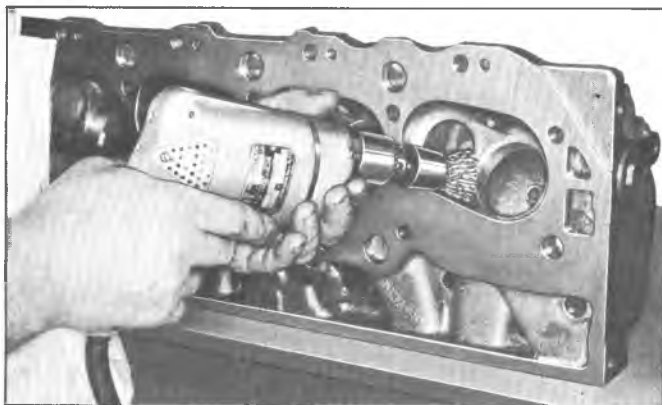

Fig. 14—Cleaning Combustion Chambers
- 1. Clean all carbon from combustion chambers and valve ports using Tool J-8089 (fig. 14).